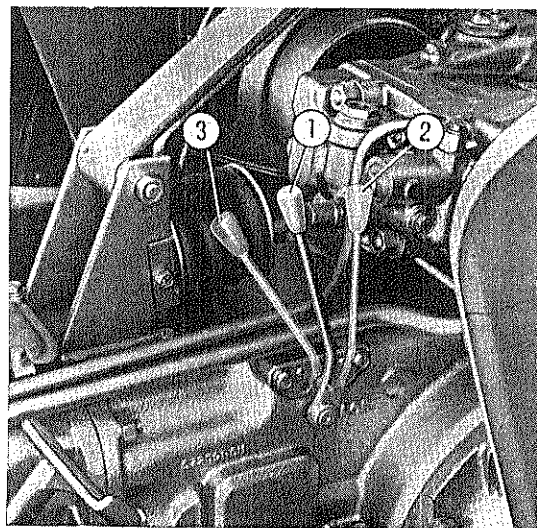

Fig. 5. - Power take-off and belt pulley control lever.
**10. Power take-off and belt pulley control lever:** the positions of this lever are shown in fig. 5.
By means of the lever shown in fig. 5, the power take-off can be driven either off the engine or off the transmission.